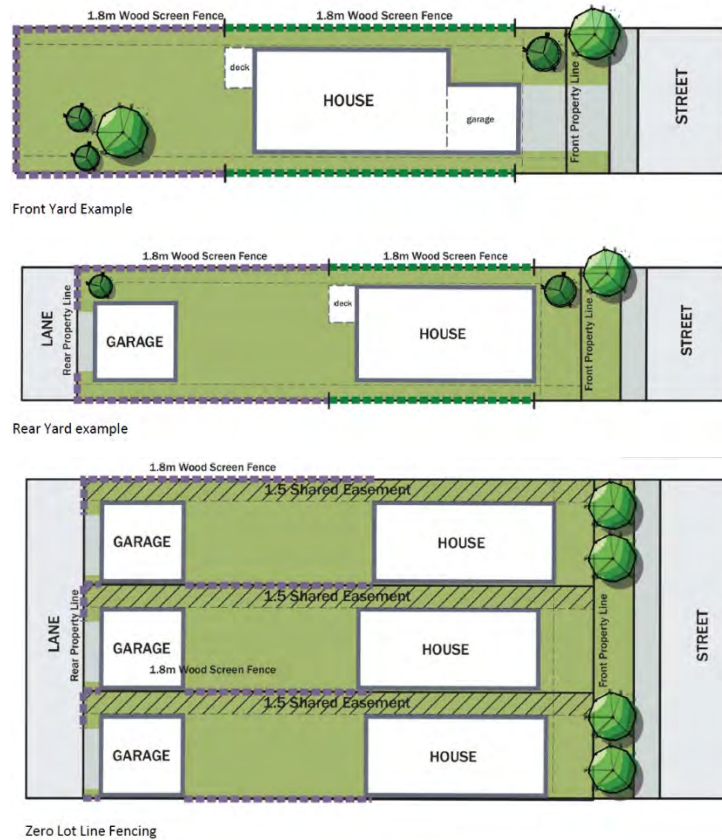

Figure 2: Fencing Plan – Typical Lots
- o Fencing for typical lots shall be designed as shown in Figure 2: Fencing Plan – Typical Lots, with 1.8 m wood screen fencing along the rear and side yards.